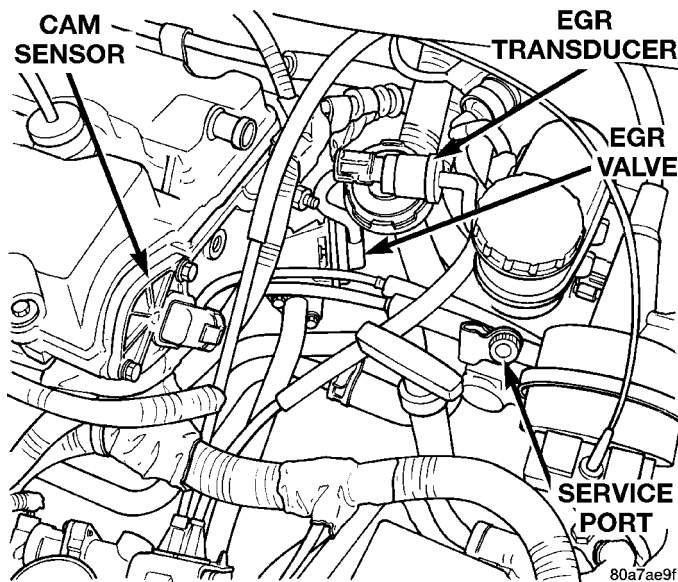

Fig. 67 Electronic EGR Transducer
(16) Check the electrical connector at the Electronic EGR Transducer. Inspect the vacuum and back pressure hoses at the solenoid and transducer for leaks (Fig. 67).